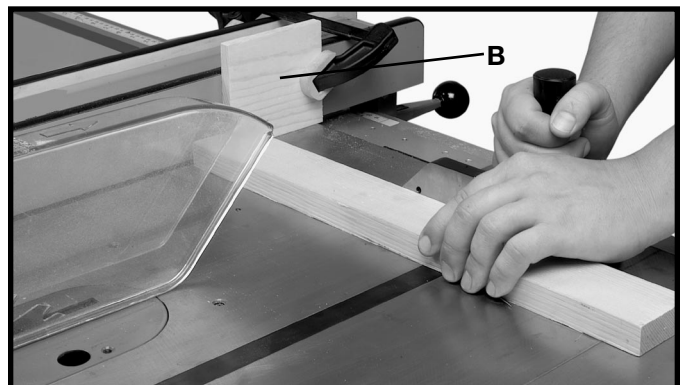

Fig. 16
**⚠ CAUTION** When using the block (B) Fig. 16, as a cut-off gage, it is very important that the rear end of the block be positioned so the work piece is clear of the block before it enters the blade.
When cross-cutting a number of pieces to the same length, a block of wood (B), can be clamped to the fence and used as a cut-off gage as shown in Fig. 16. It is important that this block of wood always be positioned in front of the saw blade as shown. Once the cut-off length is determined, secure the fence and use the miter gage to feed the work into the cut.